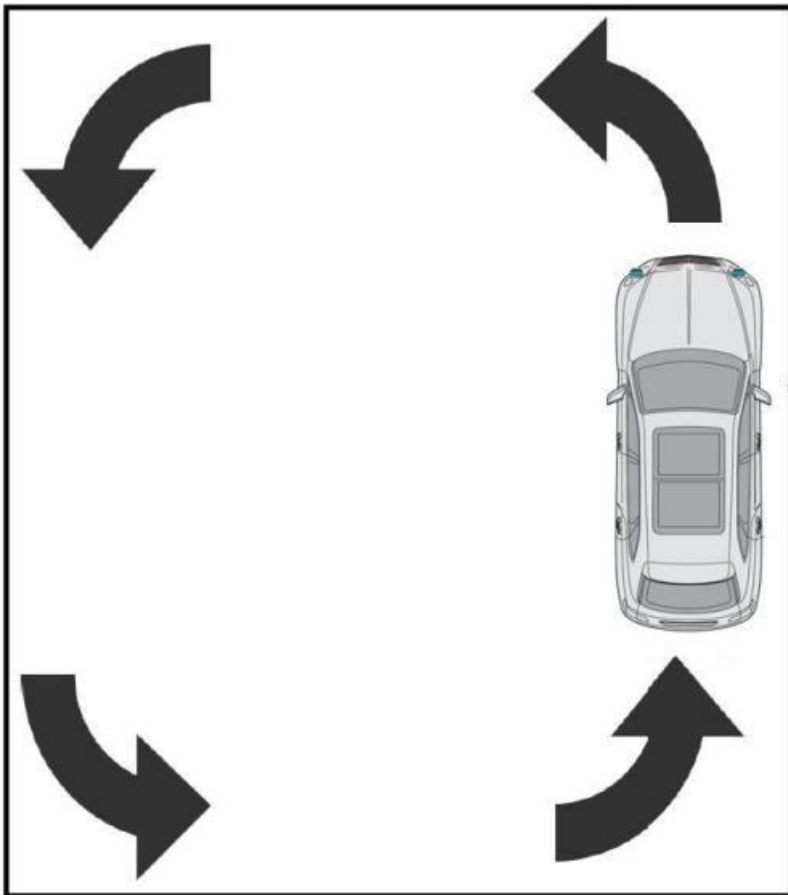

Figure 1
- Referring to Figure 1 - With the vehicle in a stationary position - Apply the footbrake – Turn the steering wheel to full left lock (hold the
- Referring to Figure 1 - With the vehicle in a stationary position - Apply the footbrake – Turn the steering wheel to full left lock (hold the steering wheel onto the lock stop)